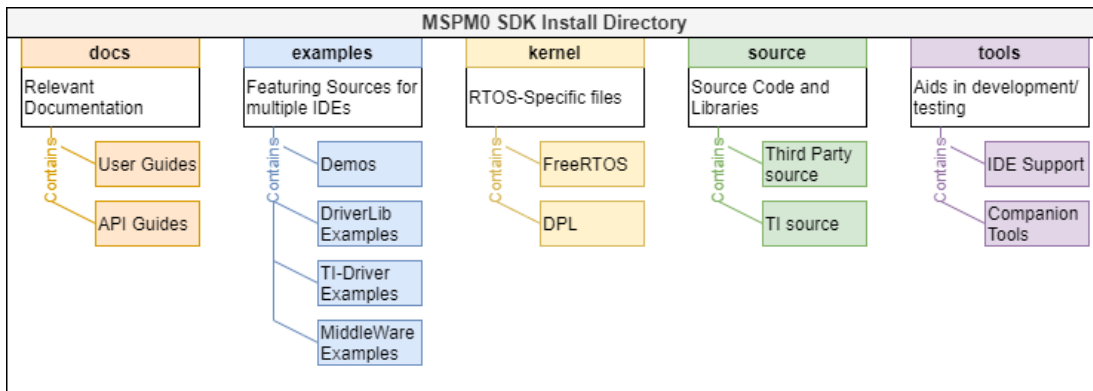

**Figure 3-4. MSPM0-SDK Install Step-by-Step**
3. After downloading, follow the steps in Figure 3-4 to finish installation.